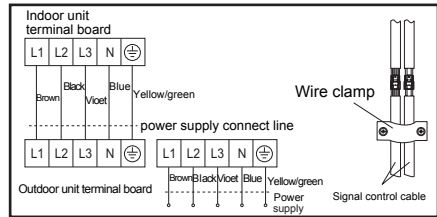

Fig 13
4. According to the diagram for wiring, according to the marks on wire board for connection correspondingly, as shown in Fig.13.